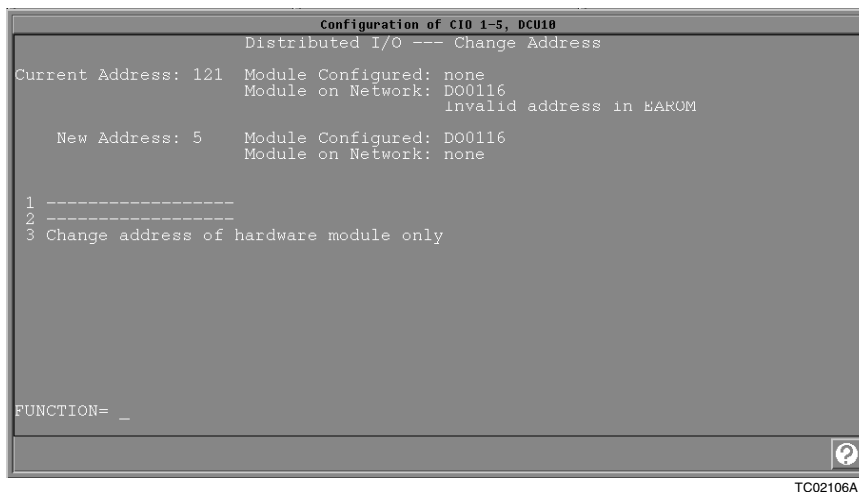

Figure 4-1. Distributed I/O - Change Address
2. At the *FUNCTION =* prompt, enter **NE** to change the address from 121 to an address from 1 to 120. Figure 4-1 is an example of the change address window.